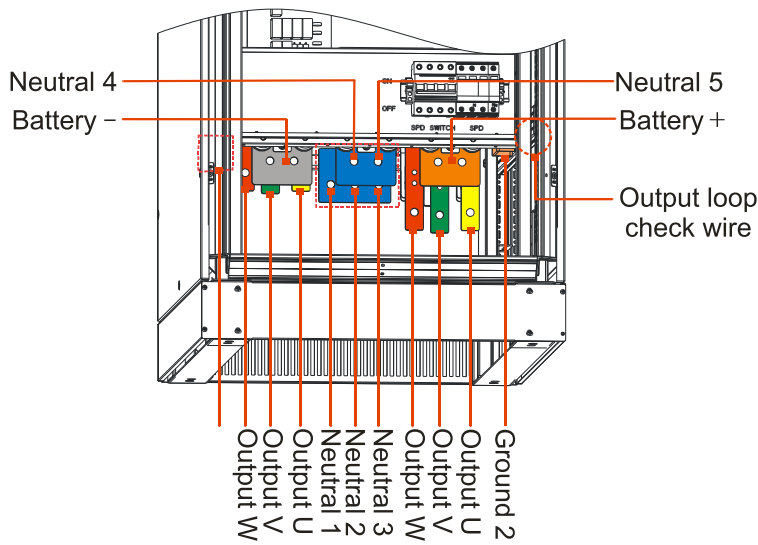

Figure3-16 Wiring terminal
Step 2 Connect the input, output and battery wires according to Figure3-16, and fasten the bolts.